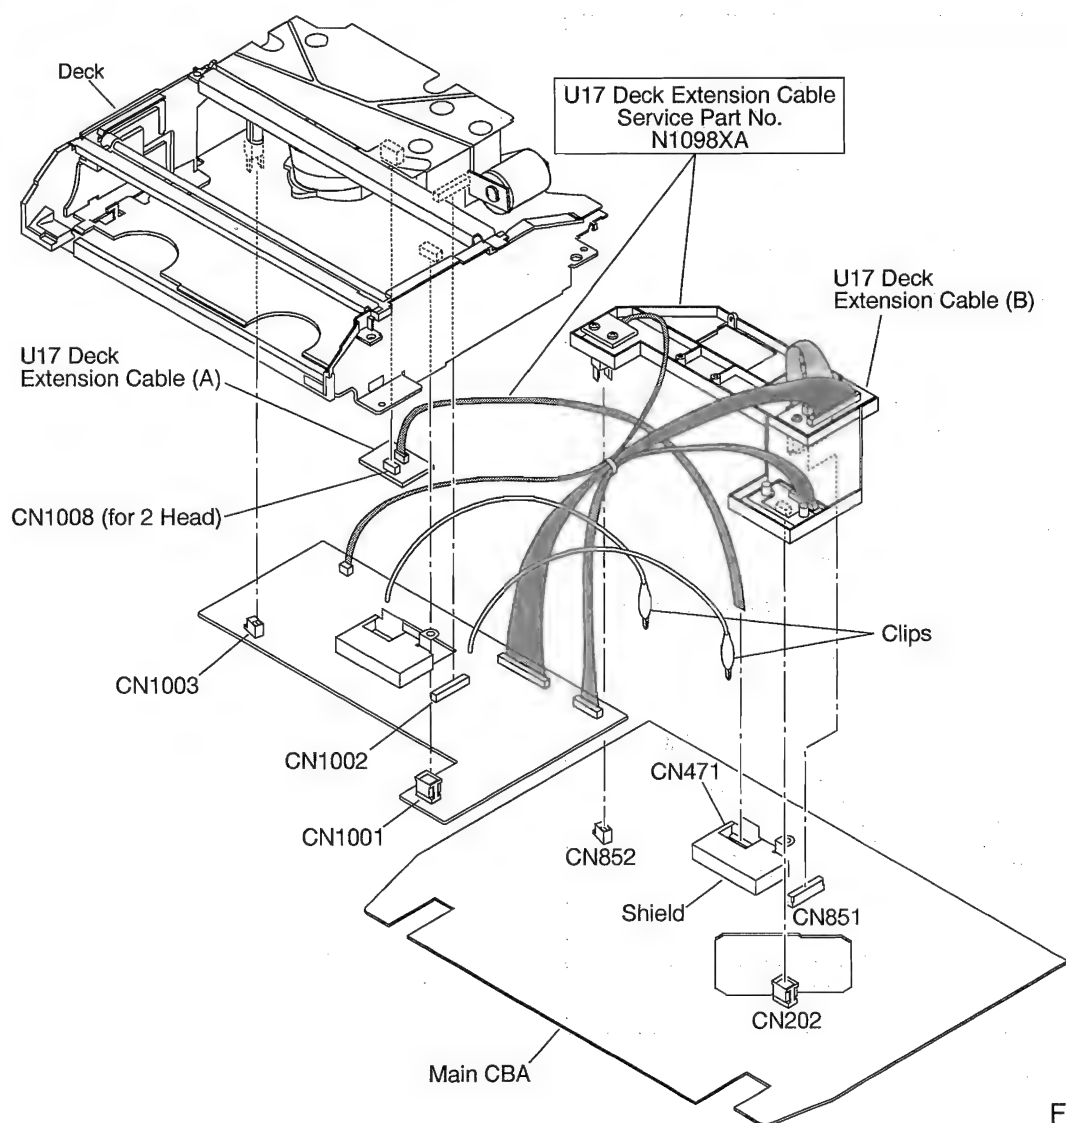

Fig. 1
- (2) Connect Main CBA and Deck with the U17 Deck Extension Cable (A) as shown in Fig. 1. And connect Main CBA and Deck with U17 Deck Extension cable (B) as shown in Fig. 1. Connect the 2 clips to the Shield plate on the Main CBA.